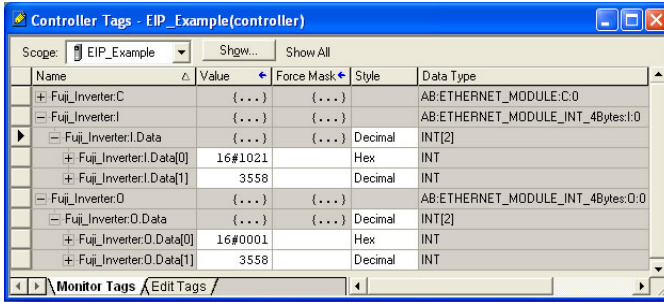

Figure 83: Controller Tags for I/O Access
- 8) By double-clicking “Controller Tags” in the project tree, it is possible to view the newly-added tags. Refer to Figure 83. The Fuji_Inverter:C configuration tag is unused, the Fuji_Inverter:I tag allows viewing of the input data, and the Fuji_Inverter:O tag allows modification of the output data. These tags will be synchronized with the inverter at whatever rate was established for the module’s RPI.
control and monitor the inverter. In Figure 83, for example, we can see that the first 16-bit word of output data (Fuji_Inverter.O.Data[0]) has been set to a hexadecimal value of 0x0001. Referring back to Figure 43, we can see that the first element of the consumed data configuration references function code S06, which is the inverter's operation command register. A value of 0x0001, therefore, means that the FWD (run forward) bit has been turned ON.